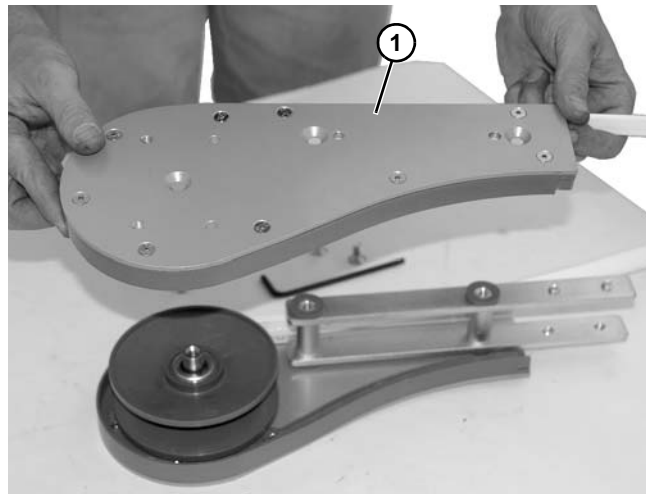

Figure 46
2. Remove the head plate (Figure 46, item 1) from the idler end.